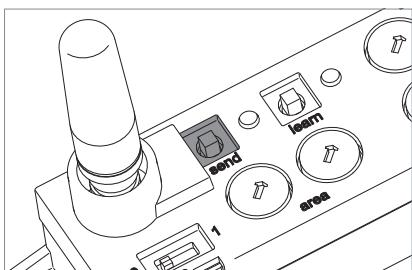

Fig. 21: "send" key.
- ▶ Press the "send" key, see Fig. 21.